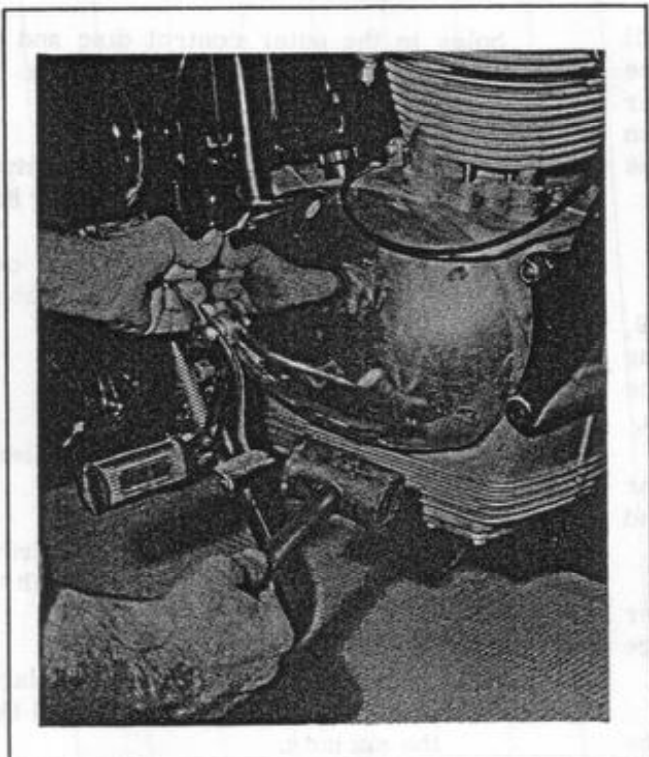

Figure 16.
6. Tap the foot shift pedal carefully with a soft-faced hammer to help slide the cover off the dowels and also help slide the "calking holder picket" (reference number 8) out of the crankcase half (Figures 16 and 17). If the transmission is not in fourth, the indexing mechanism will hit the clutch drum when the cover is removed.